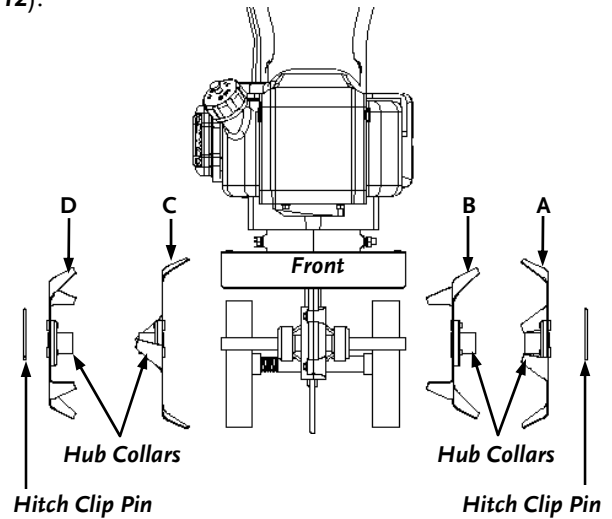

Figure 12
1. Remove the Hitch Clip Pin from each end of Tine Shaft (**Figure 12**).
2. Slide the four (4) Tines off the Shaft.
1. Locate the inside Tines, they are stamped with a **B** and a **C** (**Figure 12**). Slide the inside **B** Tine onto the Left Tine Shaft (as viewed from Handlebars) and then slide the **C** Tine onto the right Tine Shaft.